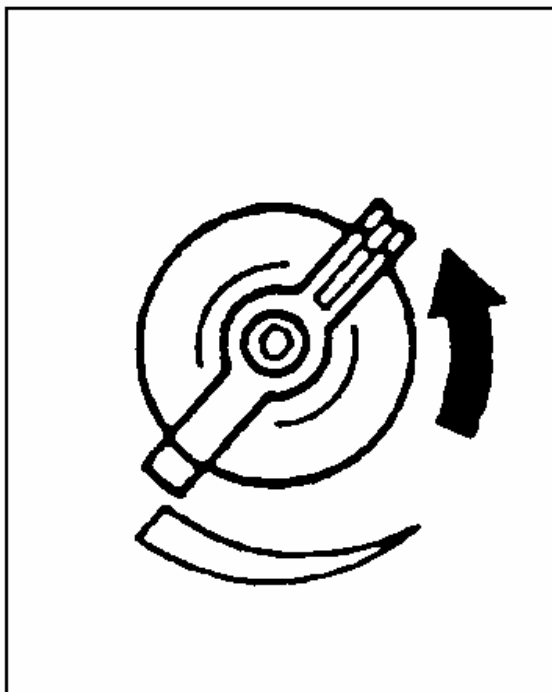

Figure 052-192-1127-4
- (1) Place the straps of the headphone over the forehead and on top of the head.
- (2) Place the hook-and-pile material behind the head at the nape of the neck.
4. Conduct initial sensitivity settings and adjustments (Figure 052-192-1127-4).